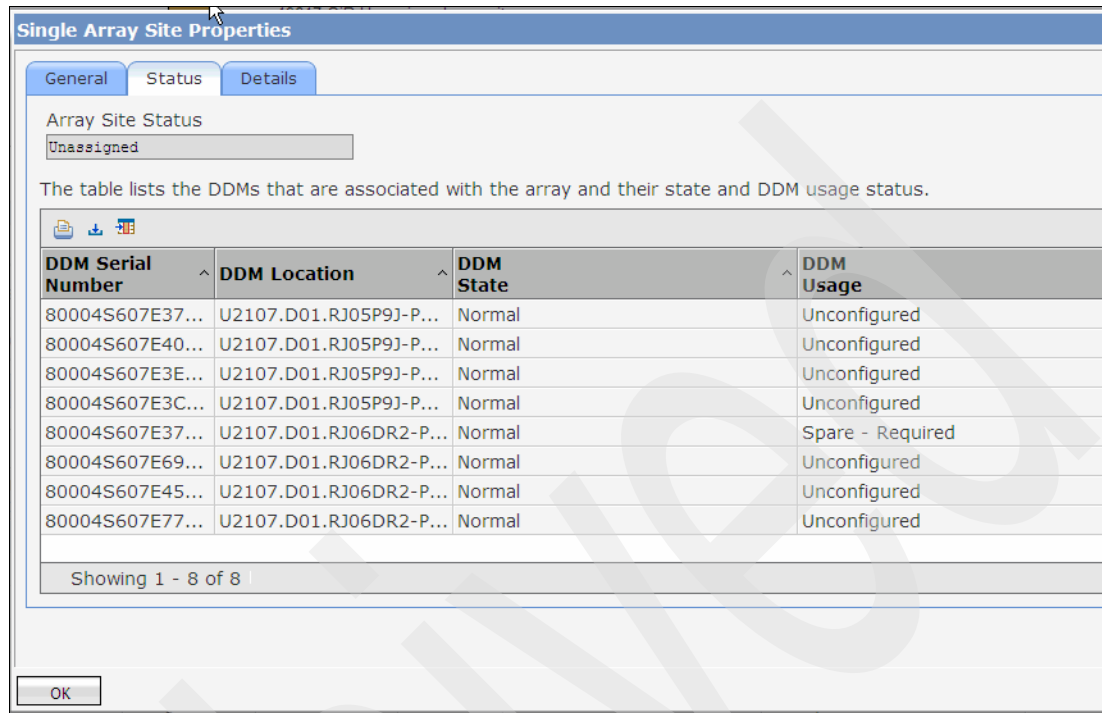

Figure 13-22 Single Array Site Properties: Status
- Click the **Status** tab to get more information about the Disk Drive Modules (DDMs) and the state of each DDM, as shown in Figure 13-22.